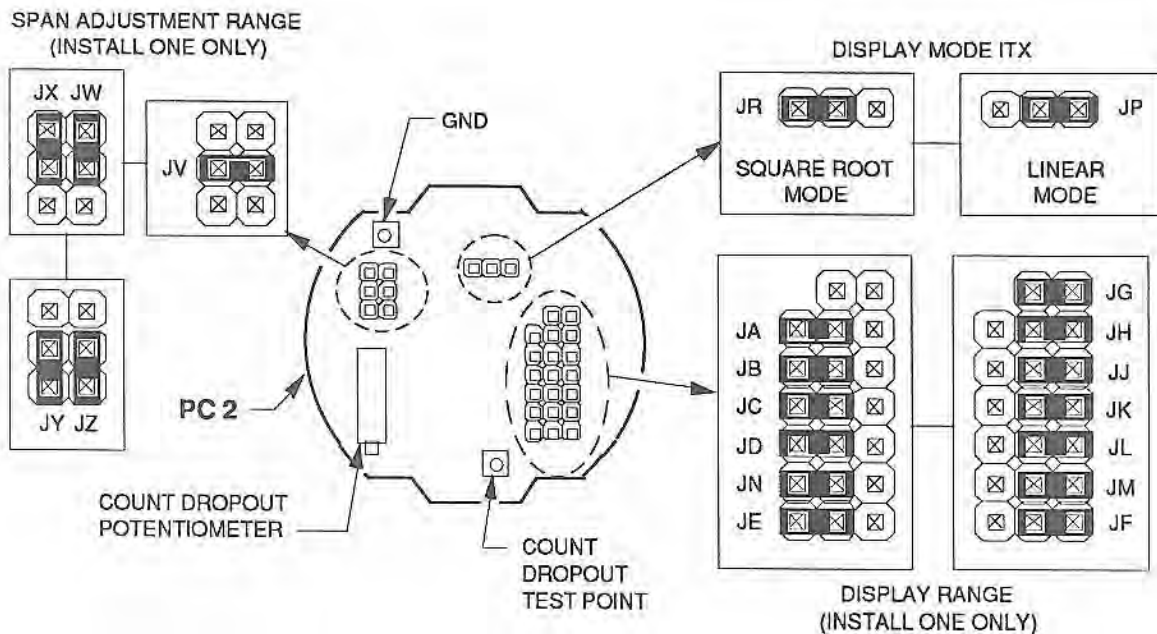

Figure 3. HP, PC2 Jumper Locations
2. Connect a dc voltmeter between the Count Dropout test point (CDTP) and ground (GND). Positive lead to CDTP and negative to GND. Reading will be approximately -2.7 volts. (See figures 3, 6, and 9.)